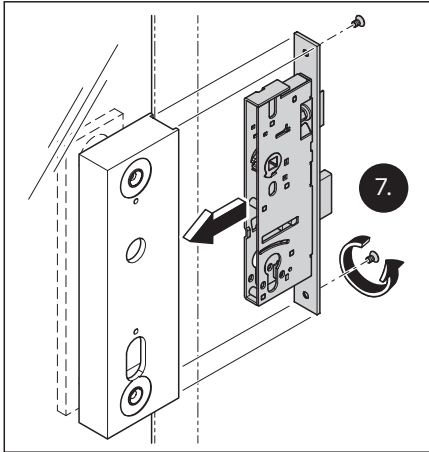

Fig. 16 Slide the lock insert into the mortise and fix in place
- Slide the lock insert into the mortise and fix in place (Fig. 16).